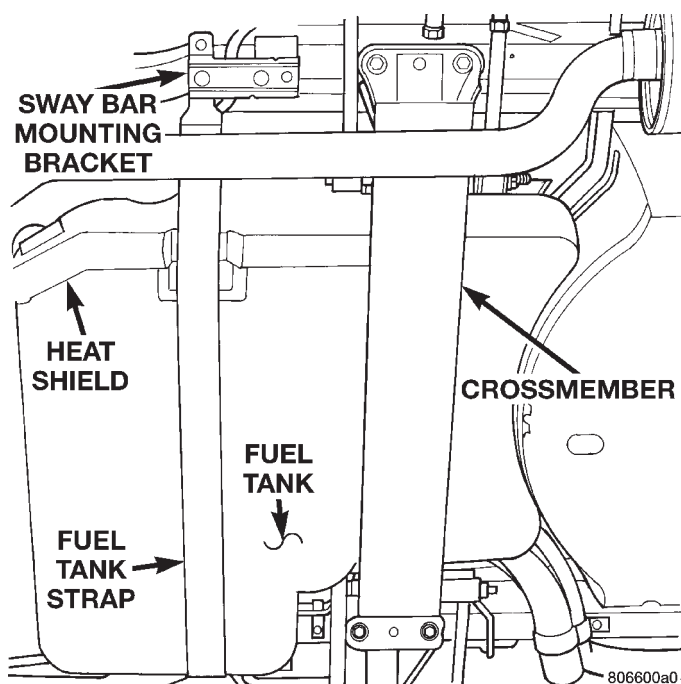

Fig. 19 Crossmember To FrameRail Attaching Bolts
(1) Raise vehicle on jackstands or centered on a frame contact type hoist. See Hoisting in the Lubrication and Maintenance section of this manual, for the required lifting procedure to be used for this vehicle.
(2) Remove both rear wheel and tire assemblies from the vehicle.
(3) Position a transmission jack under the fuel tank just forward of the crossmember to help support fuel tank when crossmember is removed.
(4) Remove the 4 rear suspension crossmember to frame rail attaching bolts (Fig. 19).
(4) Position crossmember on frame rails. Install the 4 crossmember to frame rail attaching bolts (Fig. 19). Torque the crossmember to frame rail attaching bolts to 95 N·m (70 ft. lbs.).
(5) Remove transmission jack supporting fuel tank.
(6) Install wheel and tire assembly on vehicle. Tighten the wheel mounting stud nuts in proper sequence until all nuts are torqued to half specification. Then repeat the tightening sequence to the full specified torque of 129 N·m (95 ft. lbs.).
(7) Lower vehicle to the ground.
(8) Check and reset rear wheel TOE to specifications if required.